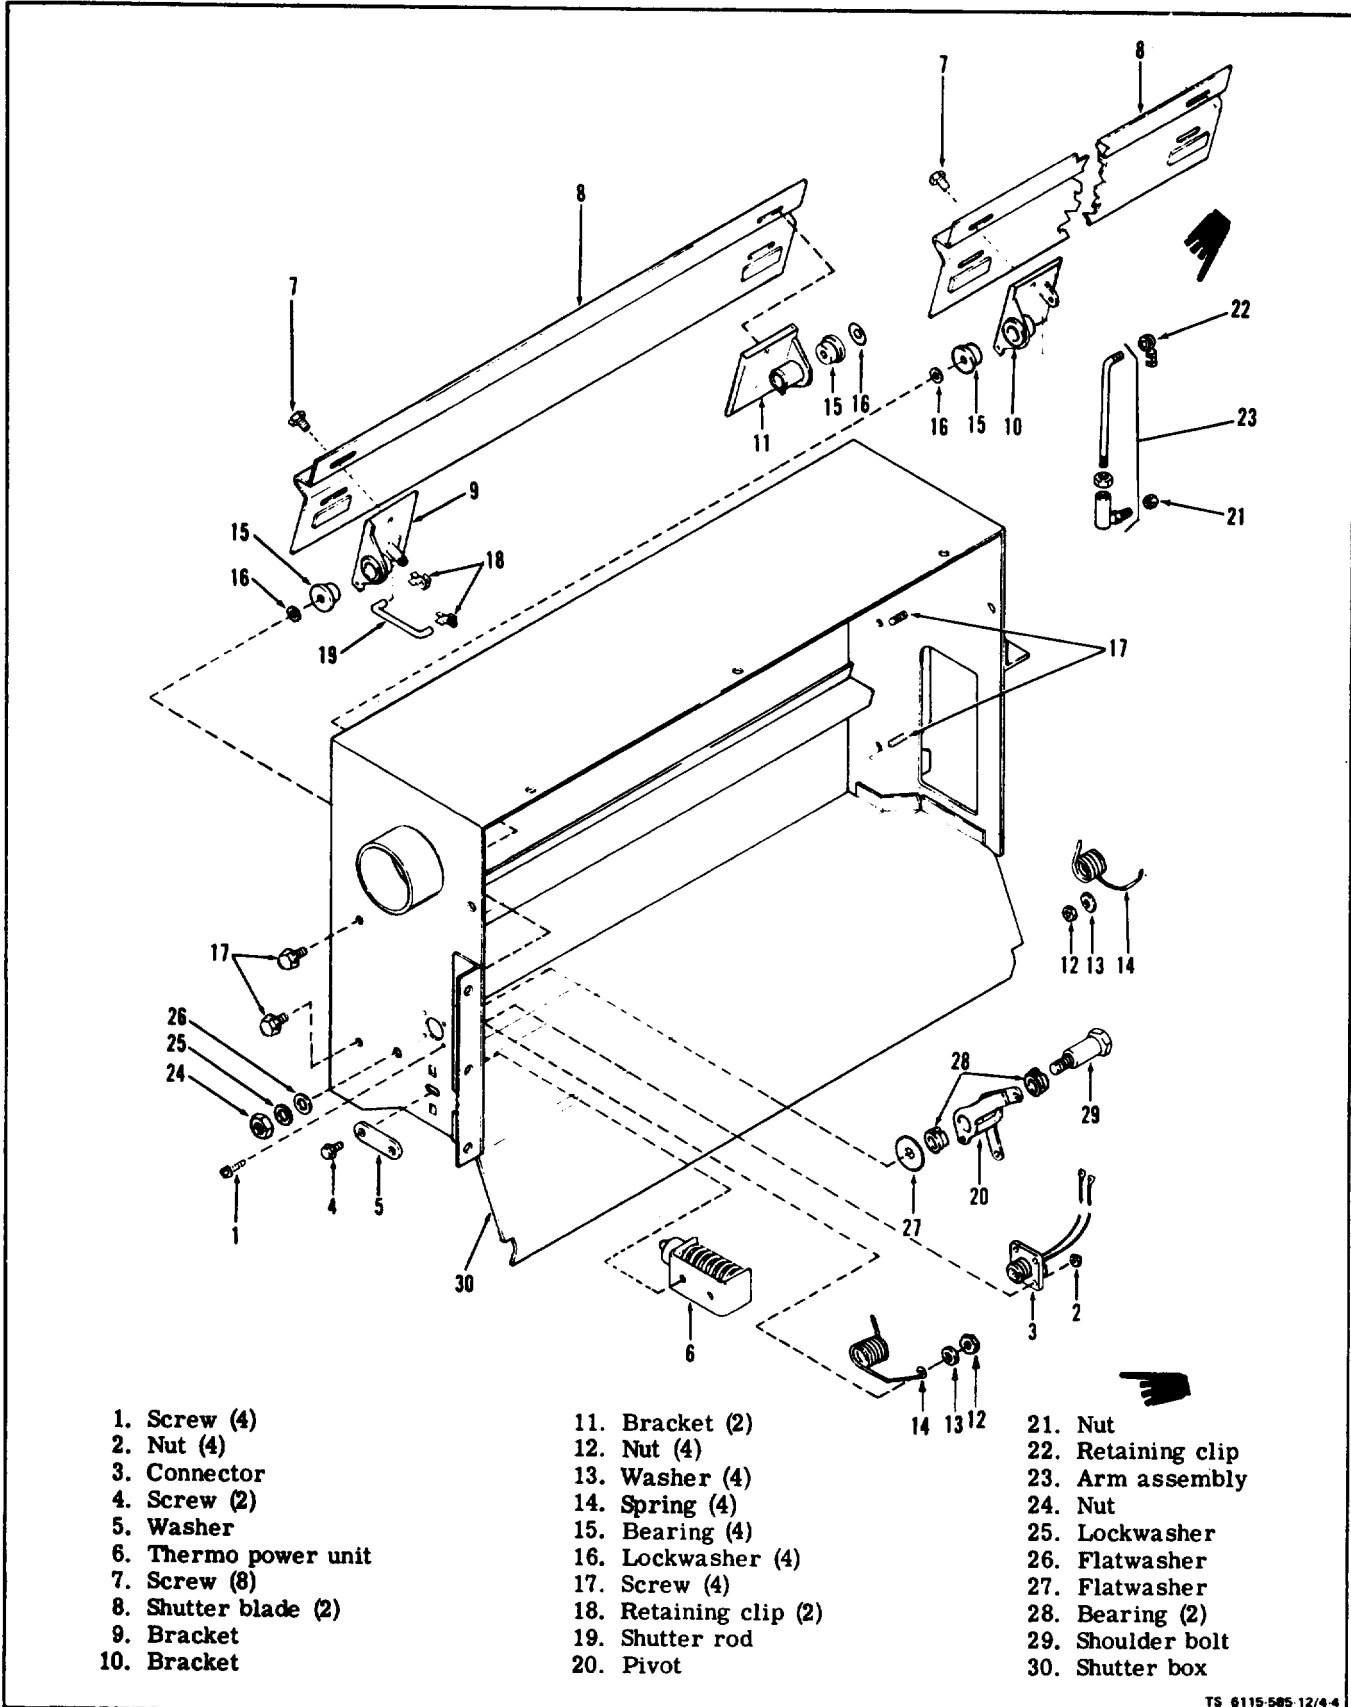

Figure 4-4. Shutter Assembly
(1) Inspect the engine fins and the housing assemblies for debris and remove as necessary. Clean using detergent, clean cloth and brush.
(2) Disconnect leads and remove high temperature cutout switch from cylinder head. Check continuity between two terminals while heating switch with its mounting stud submerged in oil. When the temperature of the oil reaches $394 \pm 10^{\circ}\text{F}$ ($201 \pm 5^{\circ}\text{C}$) the switch should open. Switch should close when temperature drops below $394 \pm 10^{\circ}\text{F}$ ($201 \pm 5^{\circ}\text{C}$). If switch does not perform as indicated, replace.
d. Disassembly of Shutter Assembly (see figure 4-4).
(1) Shutter Thermo Power Unit Assembly. Remove electrical connector (3) by removing screws